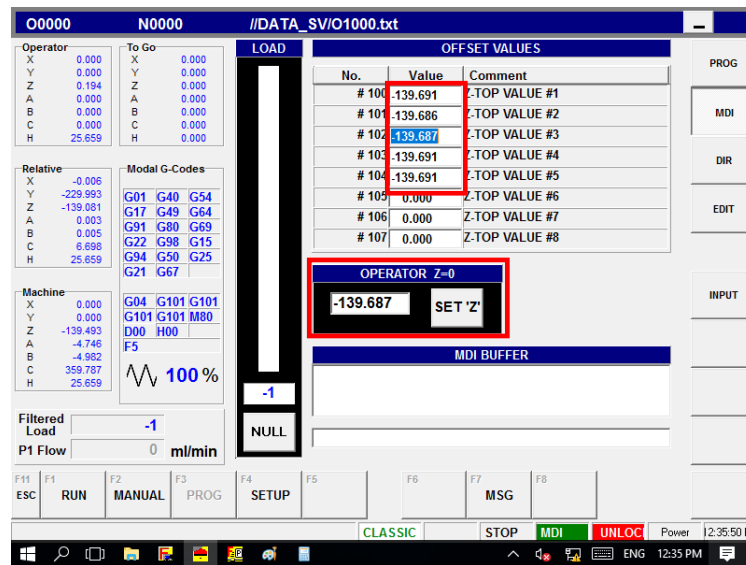

Figure 50 - ZTOP select screen
10. Select the value which will then appear in the “OPERATOR Z=0” window and press the “SET” button to update the “G54 Z OFFSET” value. See (Figure 50 - ZTOP select screen).